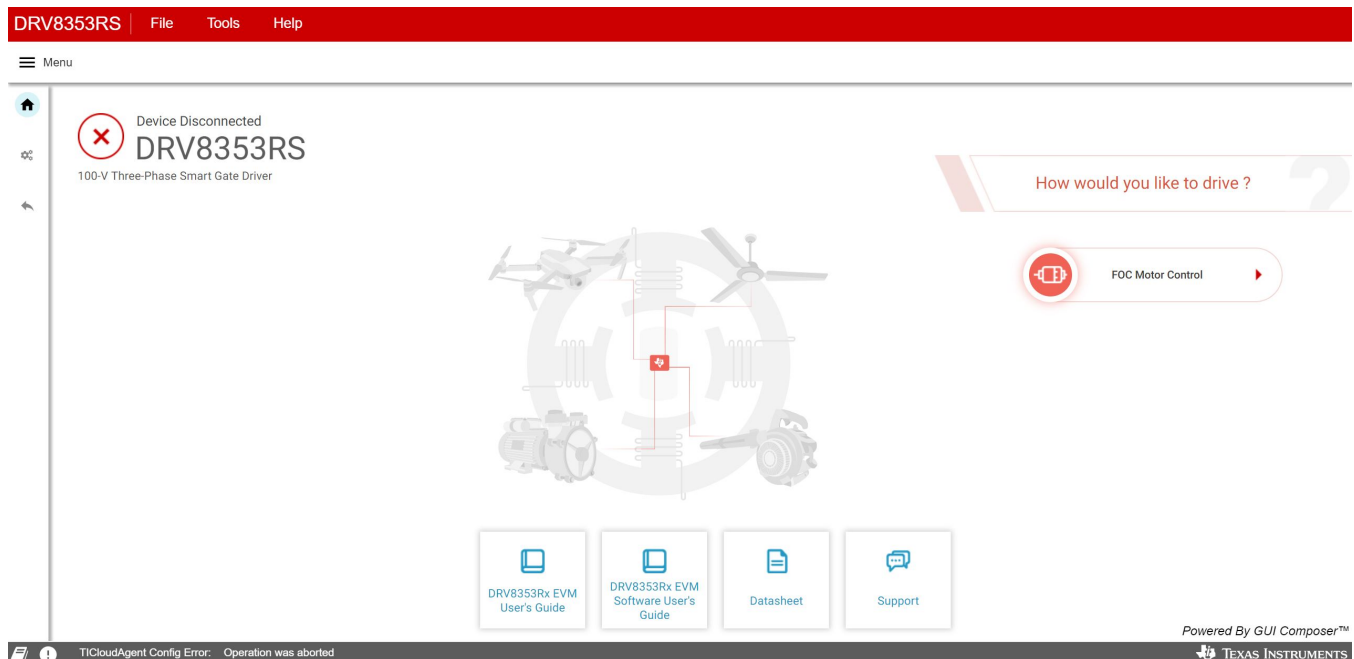

Figure 3. DRV8353Rx EVM GUI (Device Connected Display)
6. Click on the 'FOC Motor Control' button to control motor using FOC (Field Oriented Control). Once the correct device is connected, the home page will show a message 'Device Connected' as shown in Figure 3.